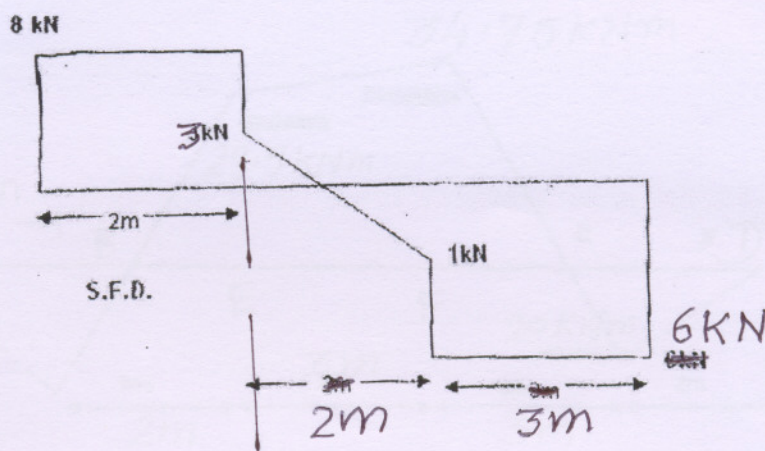

Fig. 2
- (b) Fig. 2 shows the shear force diagram of a loaded beam. Find the loading on the beam and draw the bending moment diagram :